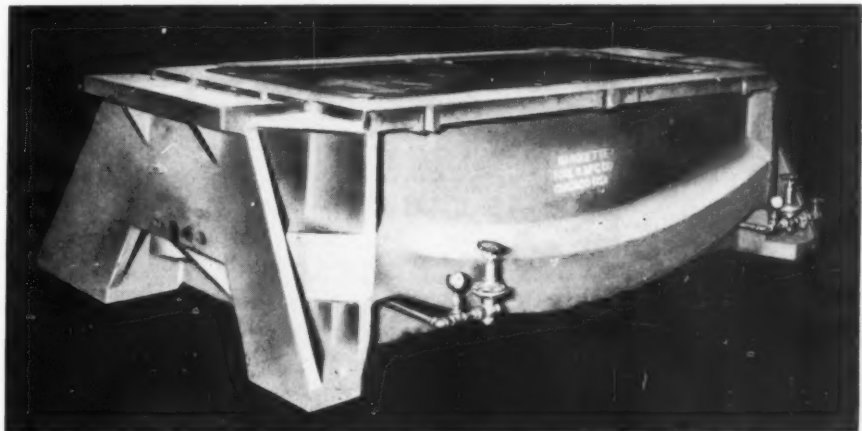

Fig. 4—Cushioned press bed which can be built into a press to form an integral part of the machine
**W**ITH the growing demand for portability and facilities for moving heavy equipment from one place to another in production plants, interest attaches to the cushioned press bed shown in Fig. 4. This is a product of the Marquette Tool & Mfg. Co., Chicago, and is intended to be built into the press as an integral part. The most important feature claimed by the manufacturers is the elimination of deep pit foundations which formerly were necessary to accommodate the blank holding cushion under the press bed.